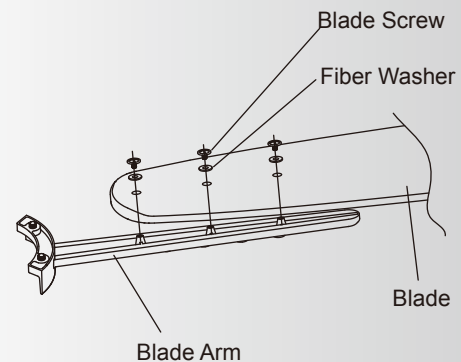

Fig. 16
Step 1. Position the blade over the blade arm with threaded posts showing. Make sure the bottom edge of the blade is fully seated against the blade arm. With a Philips screwdriver, start a screw into the blade arm (do not tighten) and repeat for the 2 remaining blade screws and fiber washers. Tighten each screw securely starting with the center screw. Make sure the blade is straight. Repeat steps for the remaining blades. (Fig. 16)